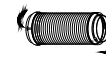
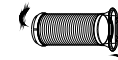

Fig. 16
Fig. 17
1. Install the window Exhaust adaptor B onto the exhaust hose as shown in Fig.16. Or Fig.17. Refer to the previous pages for window kit installation.